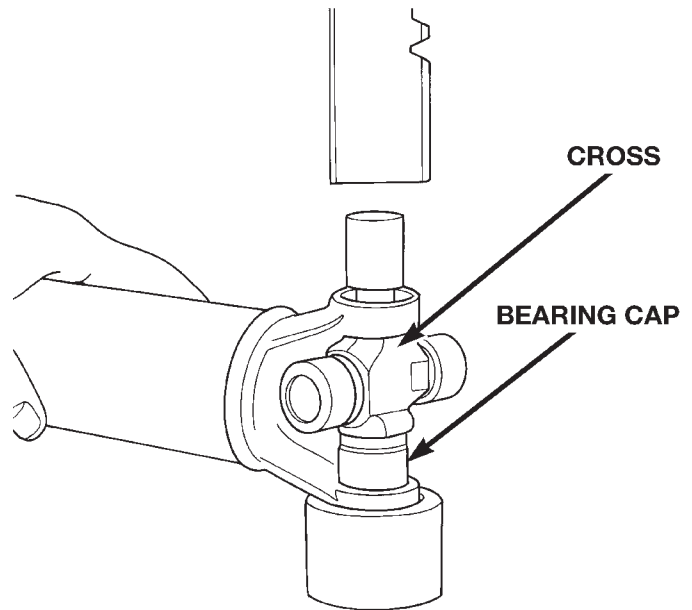

Fig. 19 Press Out Remaining Bearing
(7) If the bearing cap will not pull out of the yoke by hand after pressing, tap the yoke ear near the bearing cap to dislodge the cap.
(8) To remove the opposite bearing cap, turn the yoke over and straighten the cross in the open hole. Then, carefully press the end of the cross until the remaining bearing cap can be removed (Fig. 19).